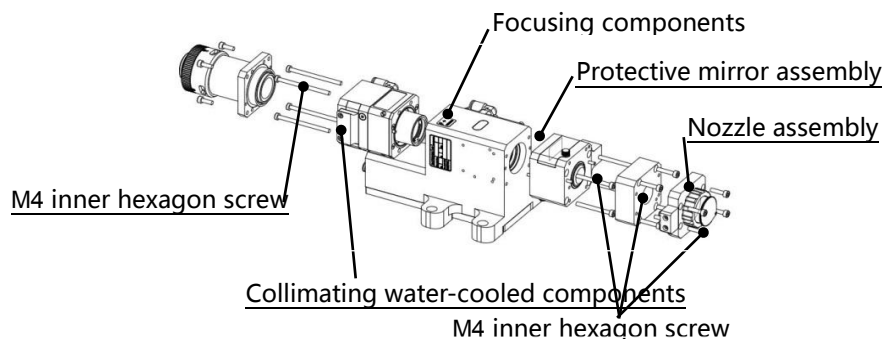

Figure 6.7 - Lens taking
- Place the laser head horizontally. As shown in Figure 6.7, remove the locking screws from
- As the sequence shown in Figure 6.7, reassemble and lock the screw.